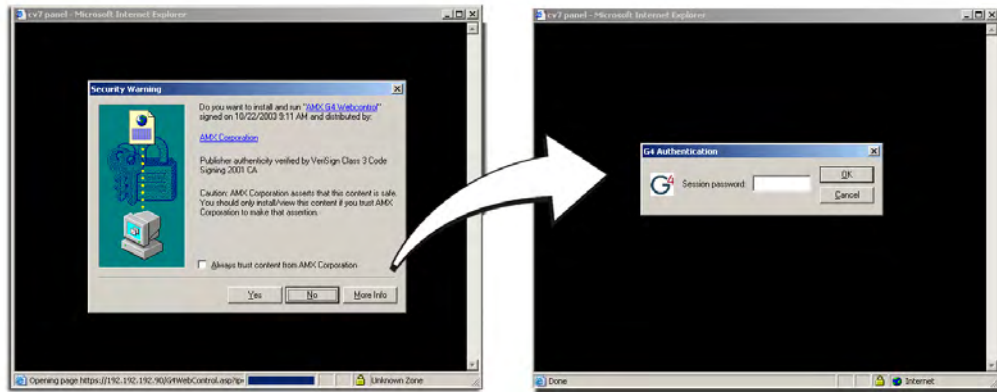

FIG. 47 Web Control VNC installation and Password entry screens
- Click on the G4 panel name link associated with the target panel. A secondary web browser window appears on the screen (FIG. 47).